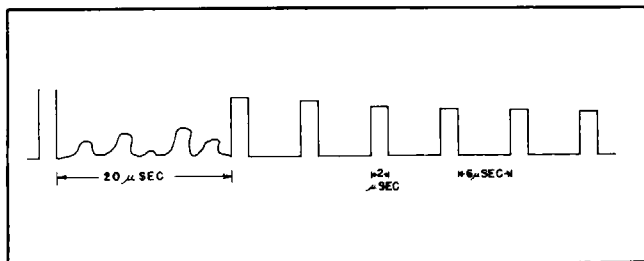

Figure 2-1. Signals from Signal Generator Appearing on Oscilloscope TS-34/AP
Rotate the "IMAGE SIZE" knob of the oscilloscope counterclockwise until the signals are of suitable magnitude. The signals from the signal generator will appear on the oscilloscope as follows: No signals from the signal generator appear for a short time after the transmitter pulse appears, although radar signals may be present; then there is a train of pulses. (See figure 2-1.) Be sure that the frequency of the signal generator (normal position) is identical to the transmitter frequency.
exact locations of units are dependent upon the design of the particular plane in which Radio Set AN/APS-10 is to be installed. (See figures 2-1 to 2-11.) There are, however, certain instructions which must be followed in all types of installation.
(5) **SYNCHRONIZER SN-17/APS-10.**—Because the majority of the controls to be adjusted during flight are located on the synchronizer, this unit (see figure 2-1) must be installed in the position most convenient to the operator. Note from figure 5-6 that the unit may be installed with the control panel either horizontal or vertical. Bolt Mounting MT-293/APS-10 to a solid portion of the airplane structure by means of six 8/32 x 3/4-inch round head machine screws, allowing ample space for connecting cables at the bottom or rear of the unit.